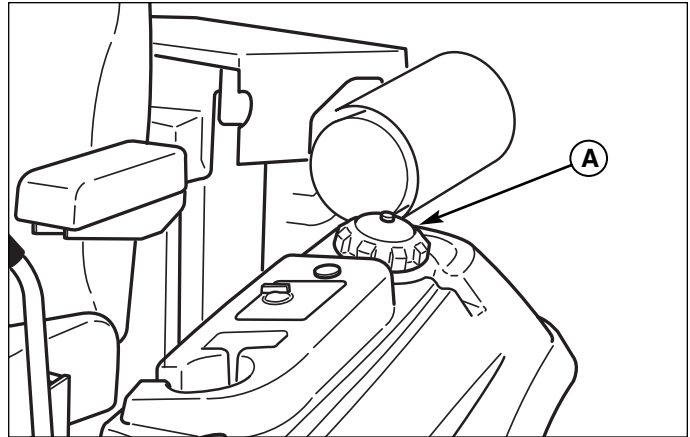

Figure 29. Fuel Tank Fill
2. Remove the fuel cap (A, Figure 29).